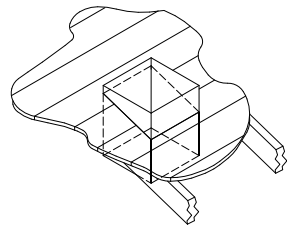

Figure 20
6. Run the Support Box through the roof as shown in Figure 20, and place it so that the bottom of the Support Box protrudes at least 2 inches below the finished ceiling. Align the Support Box vertically and horizontally with a level. Temporarily tack the Support Box in place through the inside walls and into the roof sheathing.